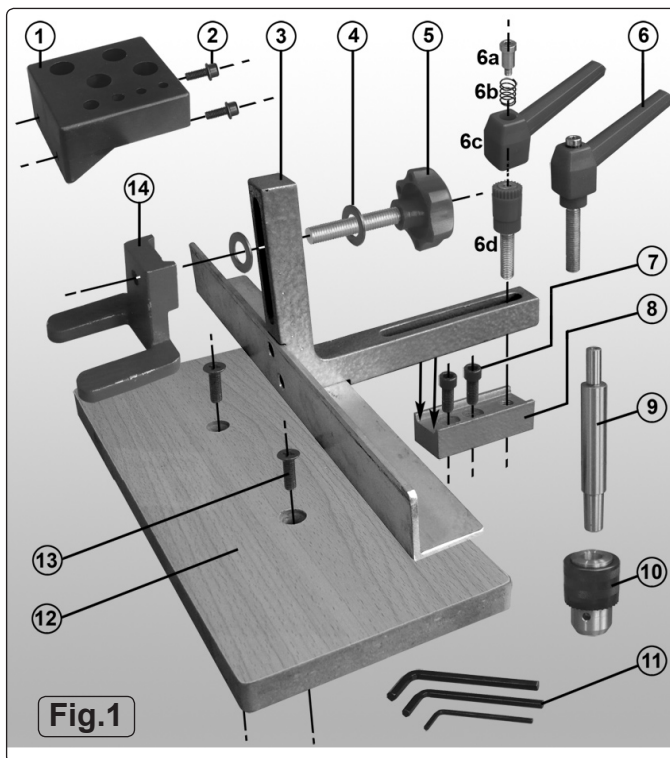
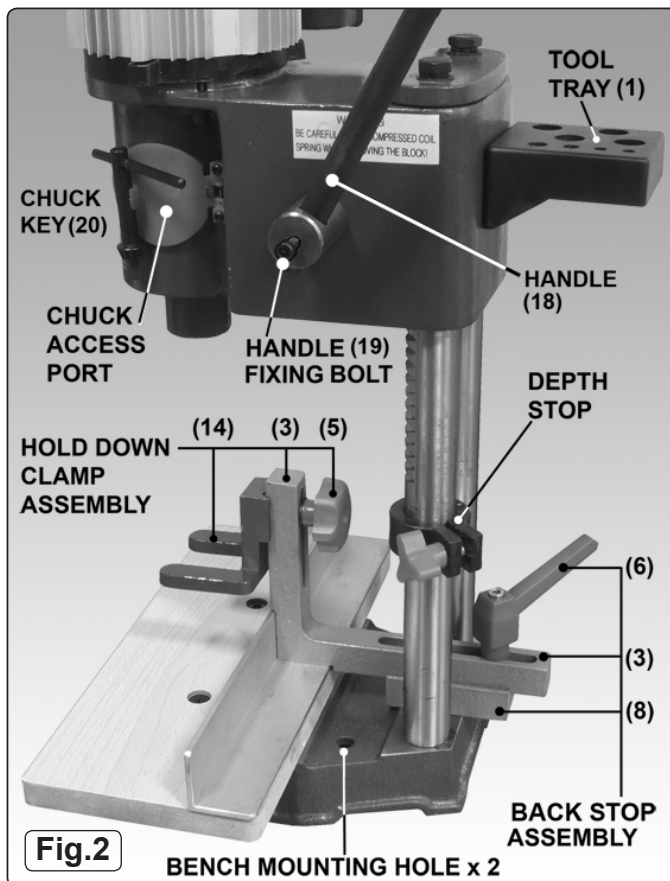

Fig.1
Fig.2
CONTENTS (See Fig.1)
18. Handle (See Fig.2 & Fig.4)
19. Handle fixing bolt (M6 x 20mm) (See Fig.2)
20. Chuck Key. (See Fig.2)
- 4.2 **Back Stop Mounting Block.** (See 8 in Figs.1 & 2) Bolt the Back Stop mounting block in between the two pillars at the back of the base casting using the two M8 x 20mm socket
- 4.3 Work Table.** (See 12 in Figs.1 & 2) Attach the Work Table to the cast base using the two countersunk M8 x 25mm Table fixing screws (13).
- 4.4 Back Stop Assembly.** (See Fig.2) Lay the Back Stop onto the work table with the long extension resting in the guide block (8). Place the Clamp Lever Post (see 6d in Fig.1) through the slot in the guide and screw it down by hand into the threaded hole in the Back Stop mounting block.
- 4.4.1** Place the Clamp Lever (see 6c in Fig.1) onto the top of the clamp post ensuring that it engages with the splines on the post.
- 4.5 Hold Down Clamp Assembly.** (See Figs.1 & 2) Slide a washer (4) over the threaded shaft of the hold down clamp adjustment knob (5). Insert the threaded shaft through the vertical extension of the Back Stop (3) and slide on another washer (4). Place the hold down clamp on the front face of the Back Stop extension and screw the threaded shaft into the clamp until it is firmly fixed on the Back Stop.
- 4.6 Tool Tray Assembly.** Take the tool tray (1) and fix it to the back of the head as shown in Fig.2 using two M6 x16mm socket cap bolts & washers (2).
- 4.7 Mounting The Mortiser.** Before use, attach the mortiser to a stable work bench using the mounting points situated behind the wood working table (Fig.2) and 13mm bolts of the appropriate length which are strong enough to take the weight of the unit and the workpiece.